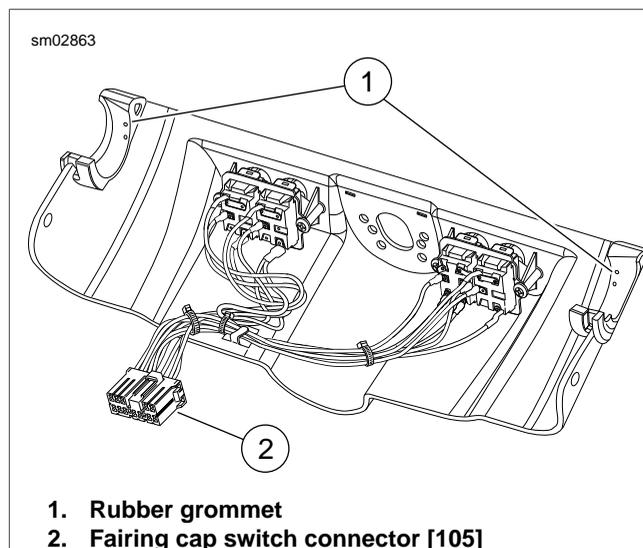

Figure 2-134. Fairing Cap Assembly
4. Remove fairing cap from motorcycle. See Figure 2-134.
1. Verify that rubber grommets are installed on each side of fairing cap. Barbs on cap fit into holes in grommets. See Figure 2-134.